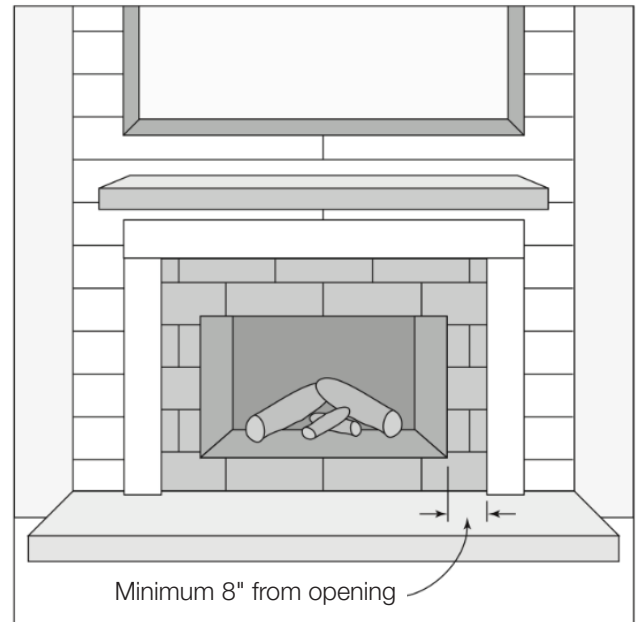

Fig. 56
- Keep TruExterior boards at least 8 inches away from the firebox opening in accordance to 2021 IRC 1001.11 exception 4 (**Fig. 56**)